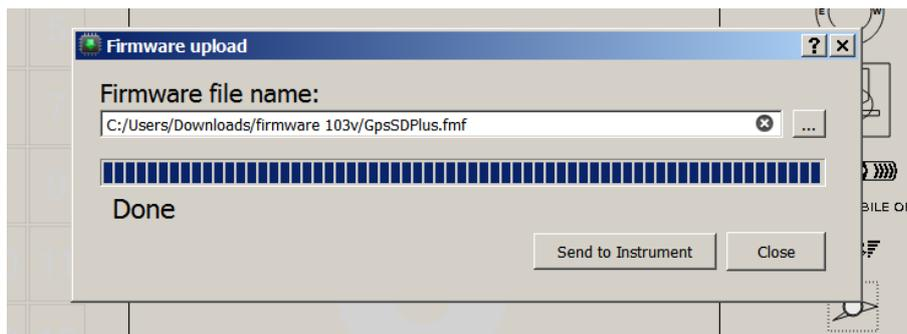

Figure 7.2: Firmware Update Done
6. When the process is finish the application shows a message saying *complete* (see Figure 7.2). Disconnect the USB cable and the VARIO SD will start to work.